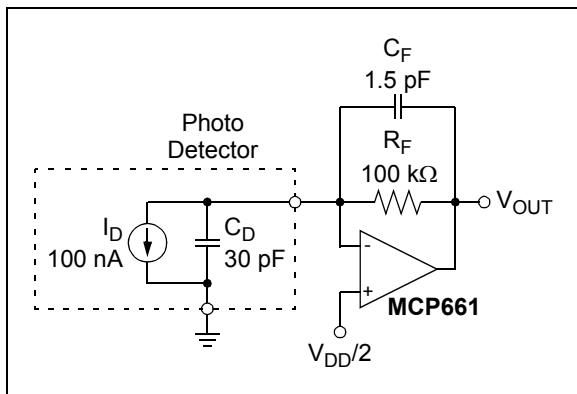

**FIGURE 4-10:** 50Ω Line Driver.
Differential gain (DG) and differential phase (DP) refer to the nonlinear distortion produced by an NTSC or a phase-alternating line (PAL) video component. The AC Electrical Specifications table and Figure 2-34 show the typical performance of the MCP661, configured as a gain of +2 amplifier (see Figure 4-10), when driving one back-matched video load ( $150\Omega$ , for  $75\Omega$  cable). Microchip tests use a sine wave at NTSC's color sub-carrier frequency of 3.58 MHz, with a  $0.286V_{P-P}$  magnitude. The DC input voltage is changed over a  $+0.7V$  range (positive video) or a  $-0.7V$  range (negative video).
Figure 4-10 shows the MCP661 driving a 50Ω line. The large output current (e.g., see Figure 2-18) makes it possible to drive a back-matched line ( $R_{M2}$ , the 50Ω line and the 50Ω load at the far end) to more than  $\pm 2V$  (the load at the far end sees  $\pm 1V$ ). It is worth mentioning that the 50Ω line and the 50Ω load at the far end together can be modeled as a simple 50Ω resistor to ground.